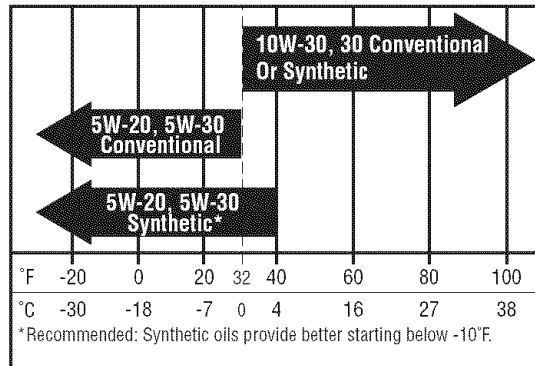
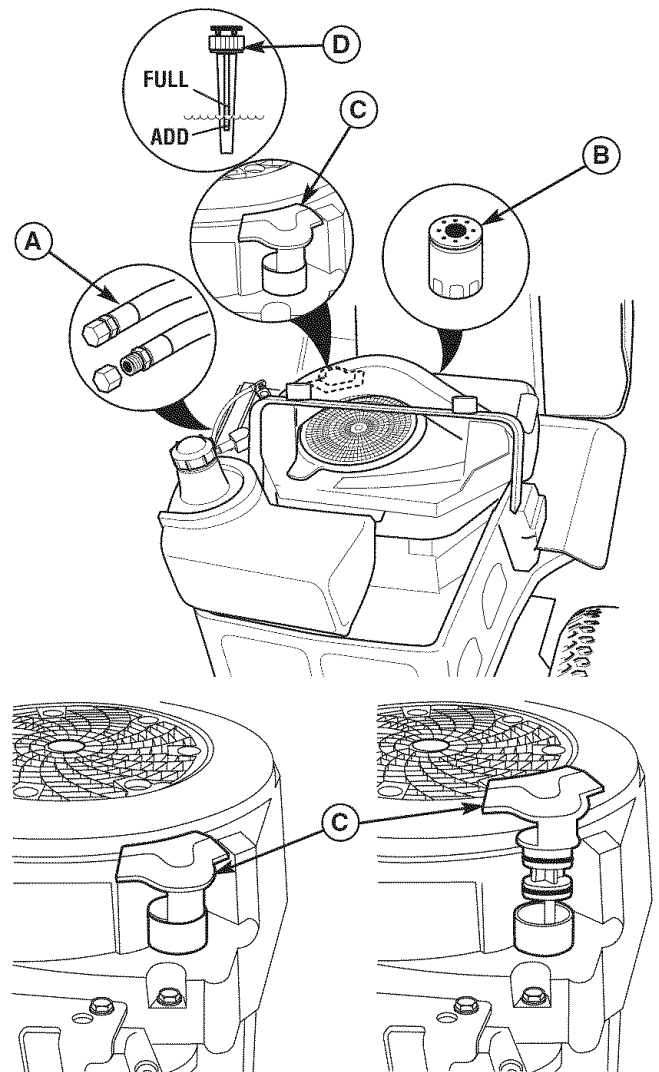

Figure 24. Recommended Engine Oil - Kohler Models
Figure 25. Oil Change - Kohler Models
2. Clean the area around the dip stick (C, Figure 25).
3. Remove the dip stick (C) and clean it with a paper towel.
5. Remove the dip stick and read the oil level. The oil level should be between the "F" and "L" marks (D). If not, add oil according to the oil recommendations chart (Figure 24).
1. Clean the area around the dip stick (C, Figure 25) and oil drain (A).
2. Remove the oil drain plug (A) and dip stick (C). Allow ample time for complete drainage.
3. Remove the oil filter (B). Discard the filter.
7. Reinstall the oil drain plug (A) and route the oil drain hose along side the engine.